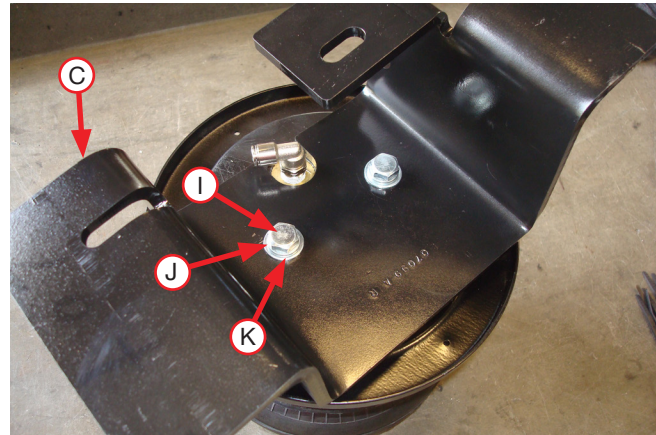

Fig. 6
2. Set the upper left- (D) and right-hand (C, pictured) air spring brackets onto the air spring assemblies and attach with 3/8" hex head cap screws (I), lock washers (J) and flat washers (K) (Fig. 6). Torque to no more than 20 lb.-ft. (27Nm).